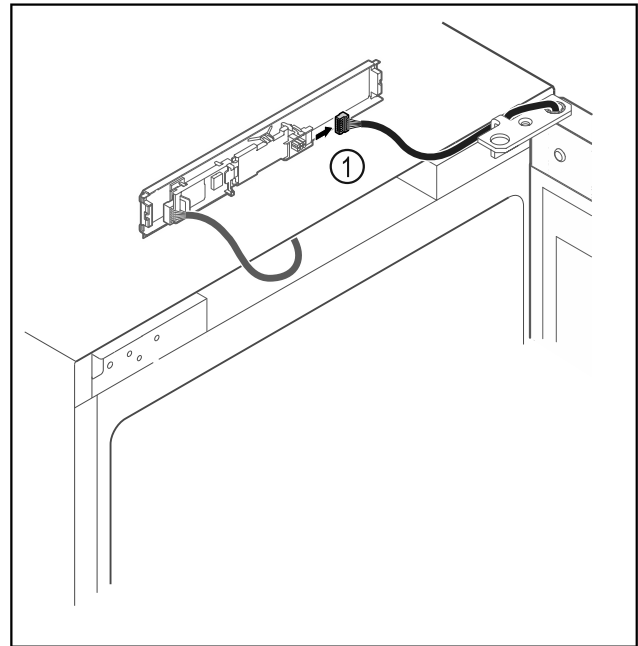

Fig. 19
- Disconnect the plug Fig. 19 (1) from the circuit board.